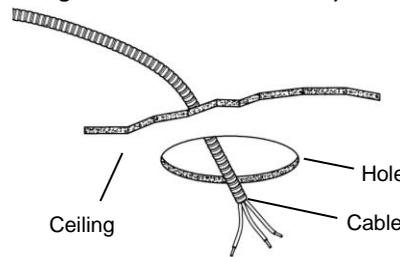

Fig. 3
3. Run armored cable (BX) or non-metallic (NM) cable (also known as Romex) from your circuit breaker or fuse panel to the 5 1/2" (14,0 cm) hole, providing 6" (15,2 cm) to 8" (20,3 cm) of slack extending below the hole. Cable having up to 12 AWG wiring may be used. (Fig. 3) **(WARNING - Use cables having wires rated 90°C or more.)**